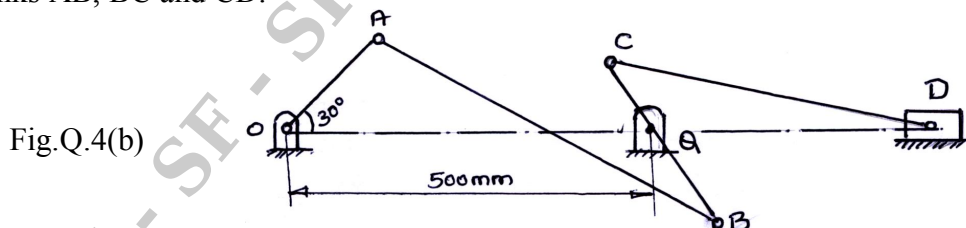

Fig.Q.4(b)
- b. Fig.Q.4(b) shows a six link mechanism. The dimensions of the links are $OA = 100\text{mm}$, $AB = 580\text{mm}$, $BC = 300\text{mm}$, $QC = 100\text{mm}$, $CD = 350\text{mm}$. The crank OA rotates clockwise at 150rpm . For the position when crank OA makes an angle of 30° with the horizontal. Determine: